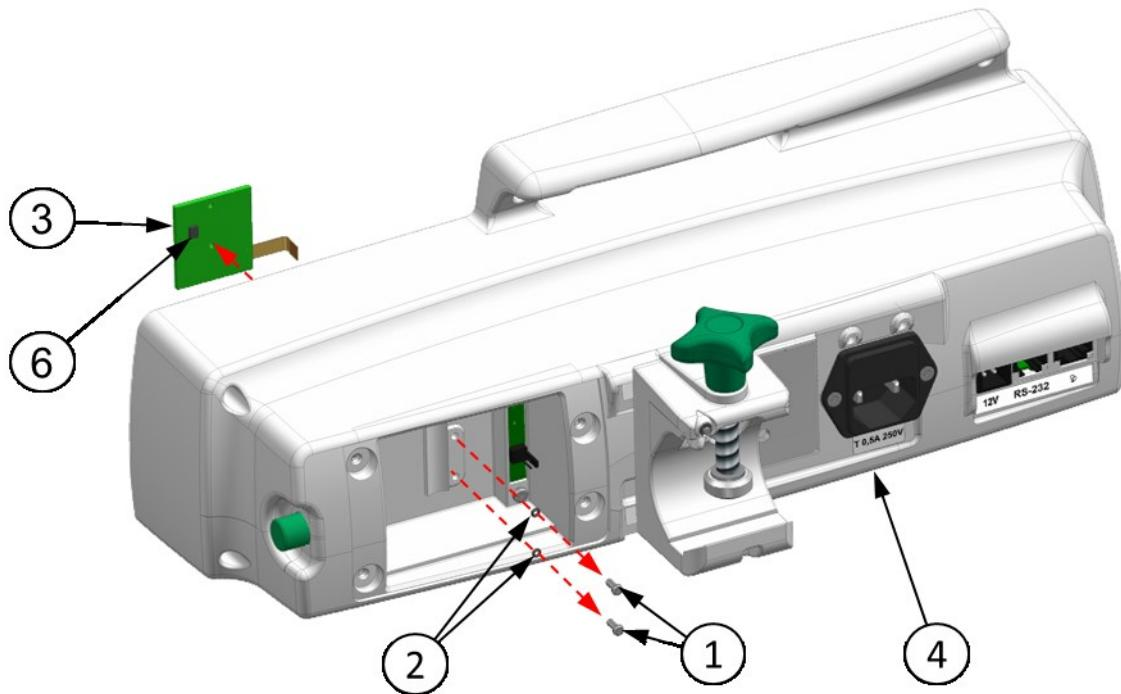
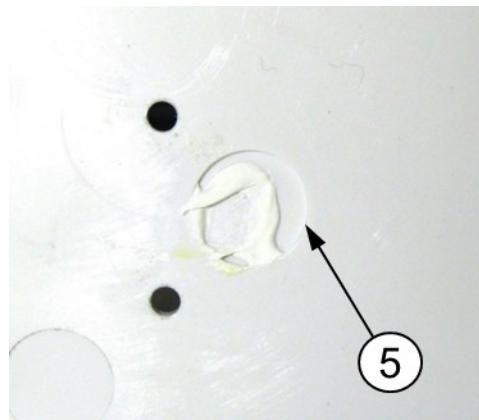

Fig. 62 Battery board removal/installation
Fig. 63 Thermoconductive tape removal
3. In the battery chamber in the **Back case (4)** unscrew two **2,5x6 screws for plastic (1)** with **1,5x1 o-rings (2)** by using **TB-2** torx screwdriver as shown in **Fig. 62**.
4. Remove the **Battery board (3)** from the **Back case (4)**.
5. Clean the **TB-8** thermoconductive paste out of the **Battery controller recess (5)** showed in the **Fig. 63** and out of the **Temperature sensor (6)** showed in **Fig. 62**.
2. Place the **Battery board (3)** in the **Back case (4)** and place the **Temperature sensor (6)** in the **Battery controller recess (5)** shown in **Fig. 63** opposite to the direction indicated by the red arrow in **Fig. 62**. Using the **TB2** screwdriver (**Fig. 65**) and protecting the **Battery board (3)** from falling out, screw two **2,5x6 screws for plastic (1)** together with **1,5x1 o-rings (2)** until O-rings get deformed as shown in **Fig. 65**.